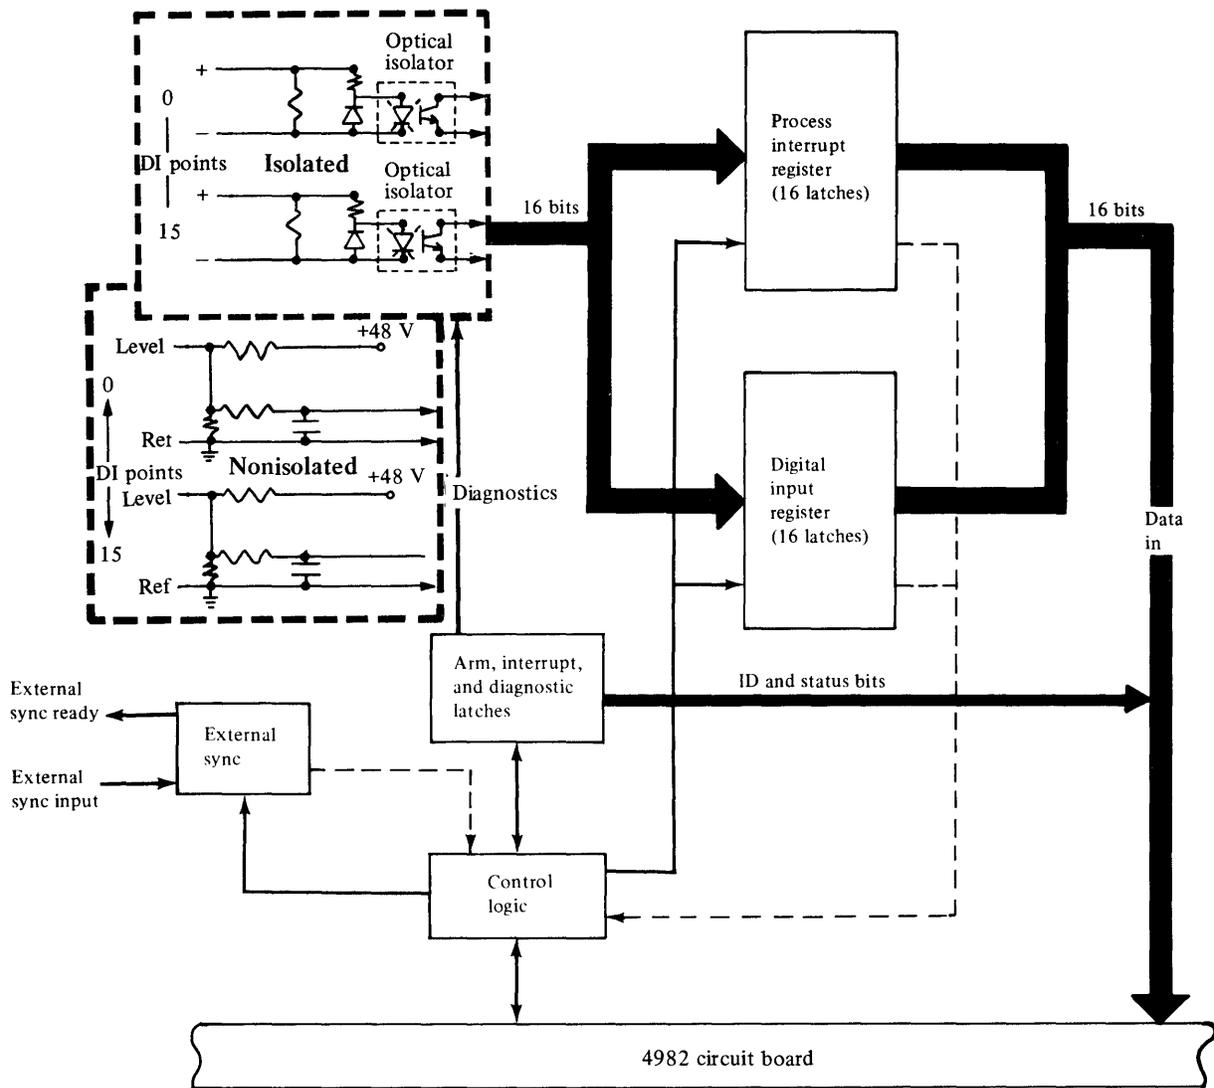

Figure 1-7. DI/PI features (isolated or nonisolated)
There are two versions of the digital input (DI) feature—isolated digital input/process interrupt (DI/PI) and nonisolated DI/PI (Figure 1-7). With the exception of the input characteristics these two features are identical. The differences in input characteristics is discussed later in this chapter.